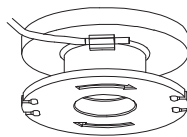

Fig. 28
2. Hold the trimmer head (13) steady with one hand. Press the release latches (13b) on both sides to remove the cover (13a).
7. Lead one end of the new trimming line (13d) through the small eyelet on the trimming spool (13c) in direction of the arrows (Fig. 28).